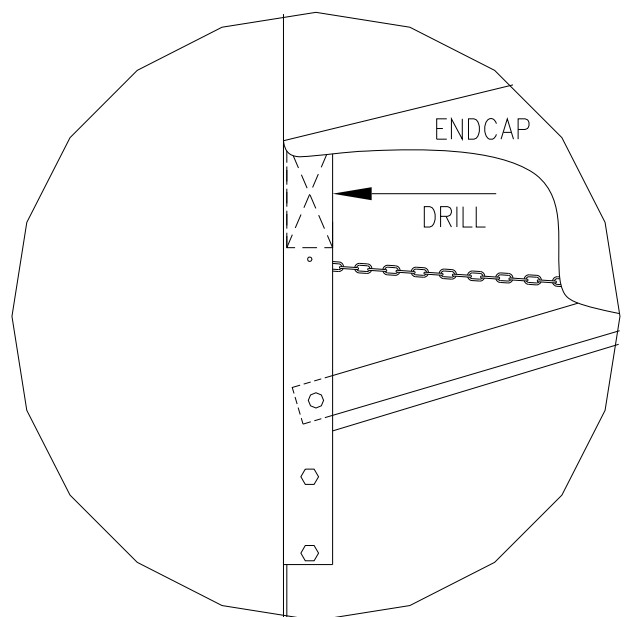

FIGURE 12
6. Install a minimum of (6) anchors into the wall that the header is to be mounted to. (Refer to "Fastening Methods" section for correct anchors and attachment methods for the building style the curtain is being installed on.) Two of the (6) anchors need to be mounted on the ends of the backer board. (See Figure 12) These holes are pre drilled at the factory for correct location. These anchors provide load bearing for the backer board and they also anchor the mounting brackets to wall. Install four more anchors into the backer board in the middle area of the unit. Install (2) just off center into the backer board based on the unit width, the other two can be centered in the spaces left between each end anchor and the center anchors. The four